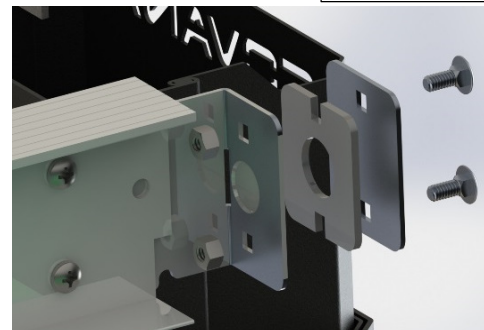

Figure 17
- Install the I-To-C spacer on each other I-Beams. (Figure 17)